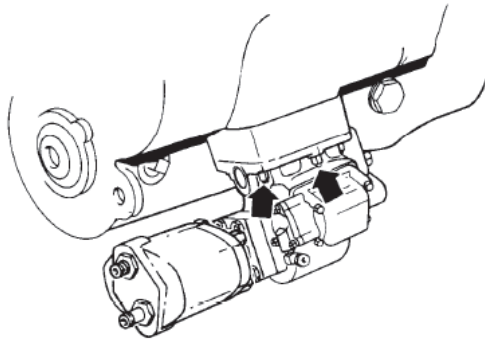

Figure 4 Location of Retaining Nuts
- e. Remove the six nuts and washers securing the PTO and adapter to the transmission (Figure 4).